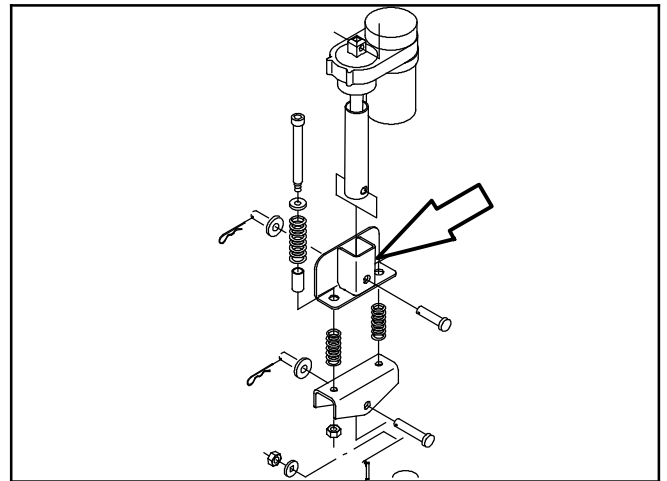
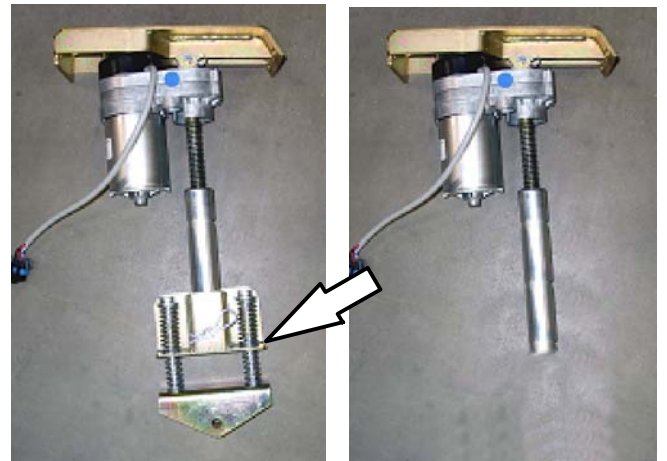

FIG. 11
FIG. 12
13. Remove the lower bracket assembly. (Fig. 11 / Fig. 12)